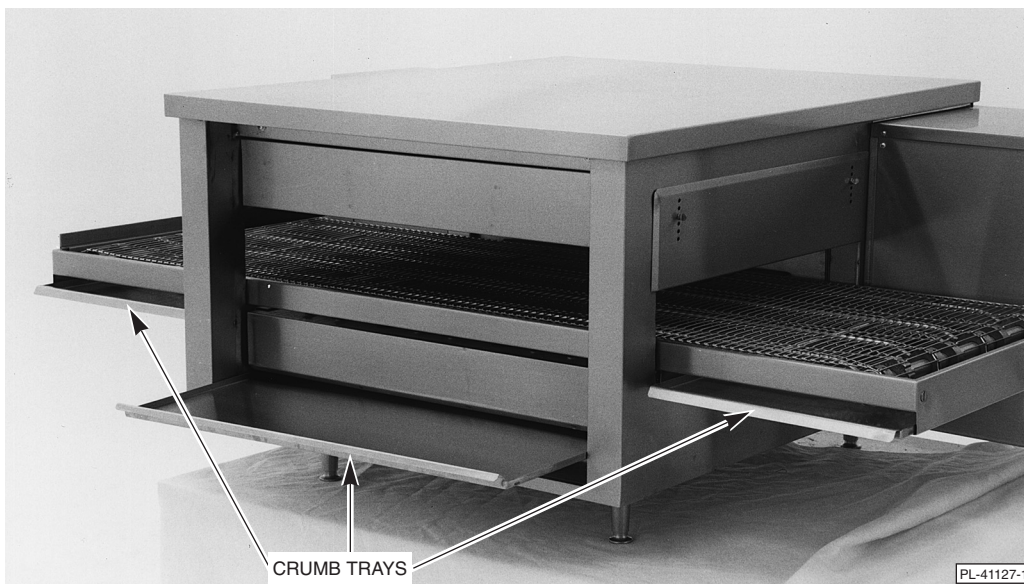

Fig. 7
Clean right-hand and left-hand crumb trays (Fig. 7).
Clean center crumb tray (Fig. 7).
- a. Remove conveyor crumb trays (see Fig. 7).